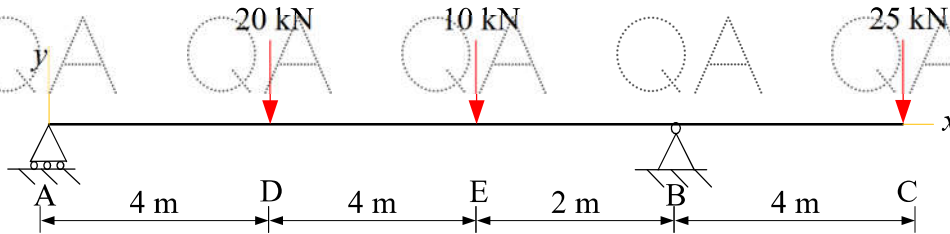

Figure.3
5. Construct the shear-force and bending moment diagrams for the beam shown in Figure.3. Label all significant points on each diagram and identify the maximum moments along with their respective locations. Clearly differentiate straight-line and curved portions of the diagrams. [10]